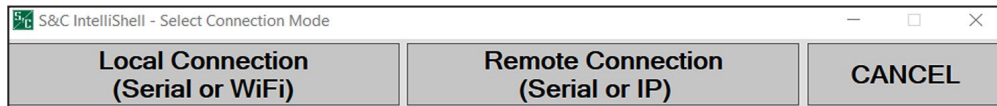

Figure 12. The S&C IntelliShell—Local Communication Setup dialog box.
**STEP 1.** Start the IntelliLink software and select between a local or remote connection. See Figure 12.